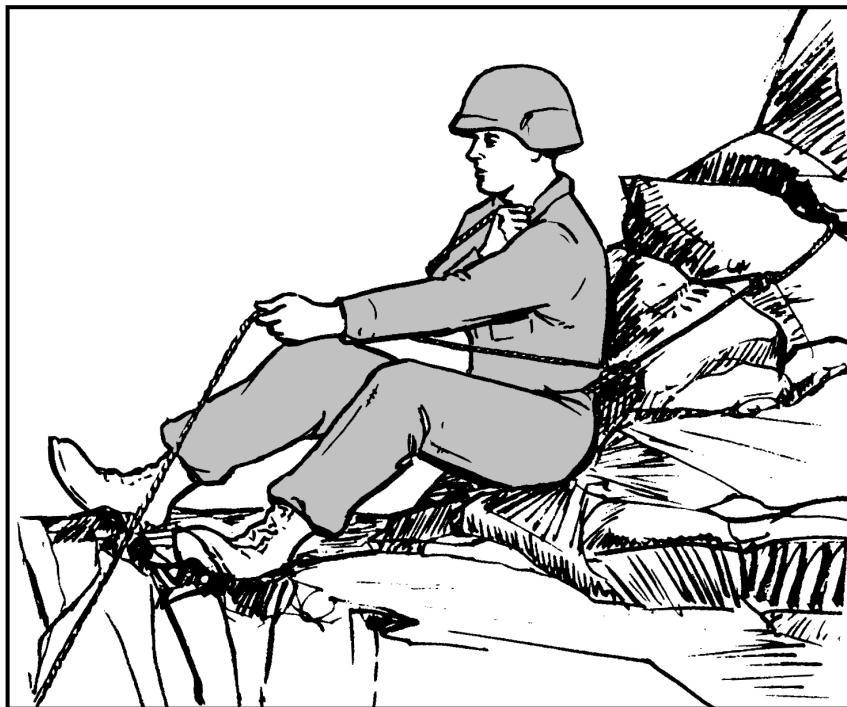

Figure 6-22. Sitting body belay.
(1) **Sitting Body Belay.** The sitting body belay is the preferred position and is usually the most secure (Figure 6-22). The belayer sits facing the direction where the force of a fall will likely come from, using terrain to his advantage, and attempts to brace both feet against the rock to support his position. It is best to sit in a slight depression, placing the buttocks lower than the feet, and straightening the legs for maximum support. When perfectly aligned, the rope running to the climber will pass between the belayer's feet, and both legs will equally absorb the force of a fall. Sometimes, the belayer may not be able to sit facing the direction he would like, or both feet cannot be braced well. The leg on the "guide hand" side should then point towards the load, bracing the foot on the rock when possible. The belayer can also "straddle" a large tree or rock nubbin for support, as long as the object is solid enough to sustain the possible load.